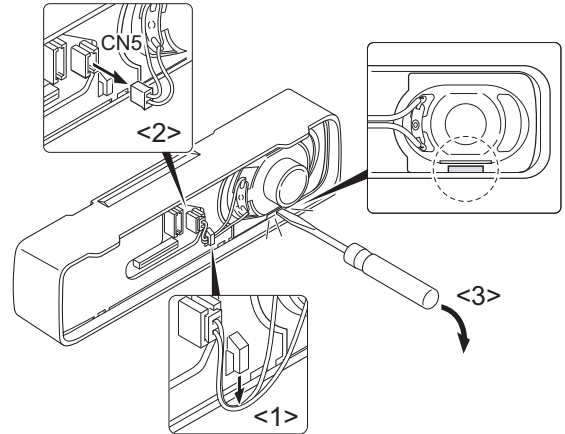

Fig.2-1
- (1) Remove the speaker lead from the holder hook. <1>
- (2) Remove the speaker connector from the display unit connector (CN5). <2>
- (3) When removing the speaker hardware fixture, insert a flat-head screwdriver at the position shown in Figure 2-1 and tilt it in the direction shown by the arrow. <3>
- (4) To remove the holder, insert a flat-head screwdriver into tab of the holder and tilt it in the direction shown by the arrow. <4>